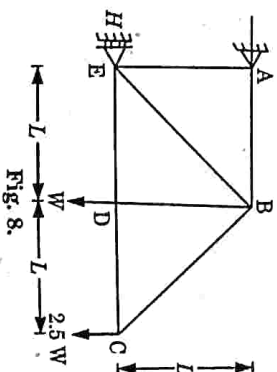

Fig. 8.
b. A braced cantilever is loaded as shown in Fig. 8. All the members are of same cross sectional area. Find the force in BE.